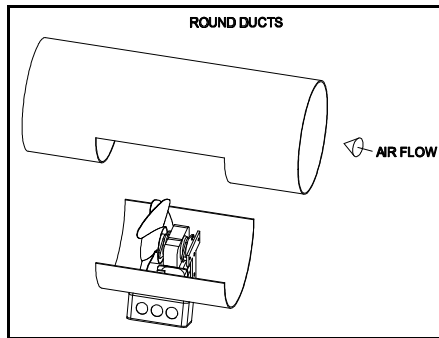

Figure 3A
5. Insert the Air Booster into the cut slot of the duct pipe. Make sure the fan blade is pointed toward the outlet of the duct. Secure the Air Booster onto the duct with the sheet metal screws provided. (See Figure 3A or 3B)